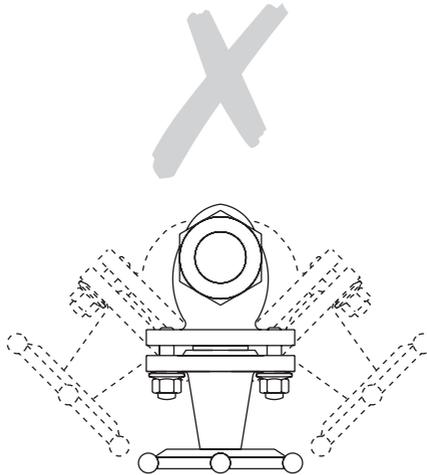

Fig. 3 Incorrect orientation for installation
- 3.1** Install the valve in the direction of flow given by the arrow on the body. The preferred position is with the spindle vertical. The valve can be installed from the vertical to the horizontal plane (see Figure 2 opposite). Do not mount the valve upside down (Figure 3).